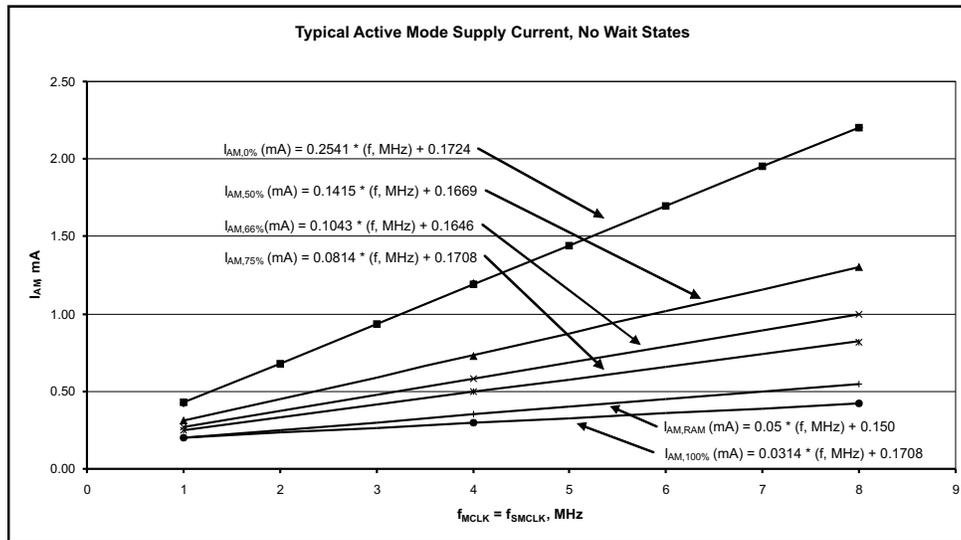

Figure 1. Typical Active Mode Supply Currents, No Wait States
- (8) See Figure 1 for typical curves. Each characteristic equation shown in the graph is computed using the least squares method for best linear fit using the typical data shown in Active Mode Supply Current Into VCC Excluding External Current.